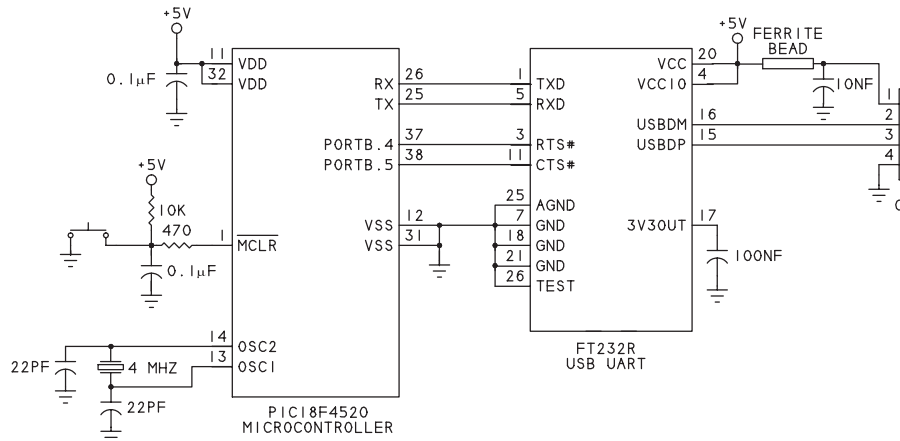

Figure 15-4: This USB virtual COM port uses an asynchronous serial interface to connect to a microcontroller.
Figure 15-4 shows a circuit that can serve as a virtual COM port. The microcontroller is an FT232R, which interfaces to a PIC18F4520 microcontroller. The PIC18F4520's asynchronous serial output (TX) connects to the FT232R's asynchronous serial input (RXD), and the FT232R's asynchronous serial output (TXD) connects to the PIC18F4520's asynchronous serial input (RX). The example circuit uses the RTS# and CTS# handshaking lines from the FT232R. These lines can connect to any otherwise unused port pins on the PIC18F4520. If needed, the FT232R's other status and control pins can connect to other port pins on the PIC18F4520.